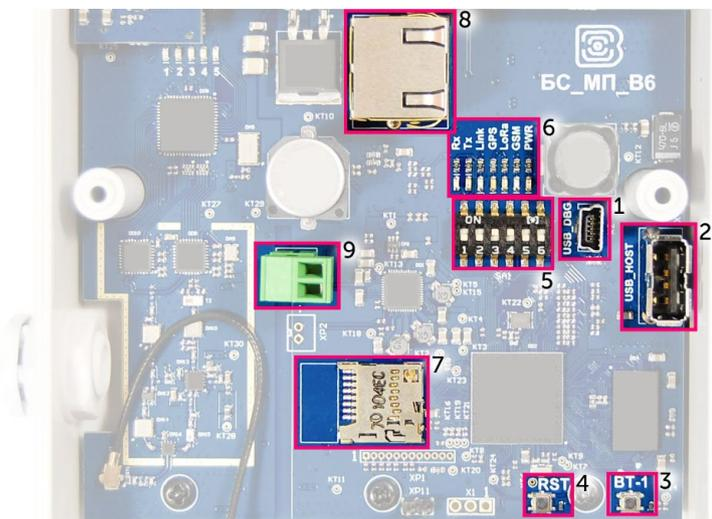
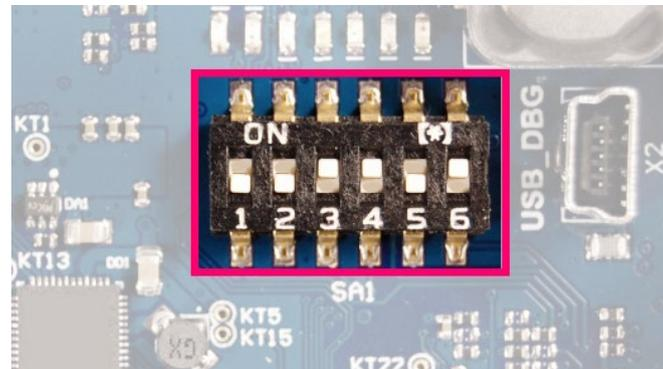

Fig. 3.1. Control and indication instruments, input and output interfaces.
Fig. 3.3. Operating position of DIP-switches.
The gateway is connected to the network with an 8-core network cable (twisted pair) through connector on the board (fig. 3.1 (8)). Cable shall be crimped in compliance with T568A and T568B standards. Contacts are numerated from 1 to 8 in order right-to-left.
There is an additional power connector on the board (fig. 3.1 (9)). It can be connectable only when power contacts 4, 5 and 7, 8 in the network cable are disabled. Permissible power voltage is 12-48 V. Minimum power is 20 W.
The gateway has a mini-USB-port for connecting to a computer and working via the SSH protocol (Fig. 3.1 (1)), and a USB-host for connecting of external devices via a USB cable (Fig. 3.1 (2)). There is a slot on the board for a SD card (fig. 3.1 (7)).
There are two buttons on the gateway board. One button is reserved for further developments (Fig. 3.1 (3)). Press the other button (Fig. 3.1 (4)) for the gateway instantaneous rebooting.
In addition, there are DIP-switches (Fig. 3.1 (5)) on the board used to select the download option of the firmware image: from internal memory, from the SD card or via mini-USB from the computer. The switches are only for service conditions. In operating mode, only switches 3 and 4 shall be enable, see fig. 3.3.
There are several LEDs (fig. 3.1 (6)) on the terminal board; its signals showing in the table below. They indicate operation of particular systems: power (on / off), visibility of GPS satellites, GSM modem (on / off), operation of the LoRa signals processing program (Packet forwarder on/off), Ethernet activity, the data exchange via mini USB port.
"BS-Dashboard" launched by the pressing the button (see fig. 3.1 (3)) on the gateway board. It may be changed in the settings. After holding the button in a pressed state during more than 6 seconds the launch begins, which may be continuing about 1 or 2 minutes in depending on the device loading.